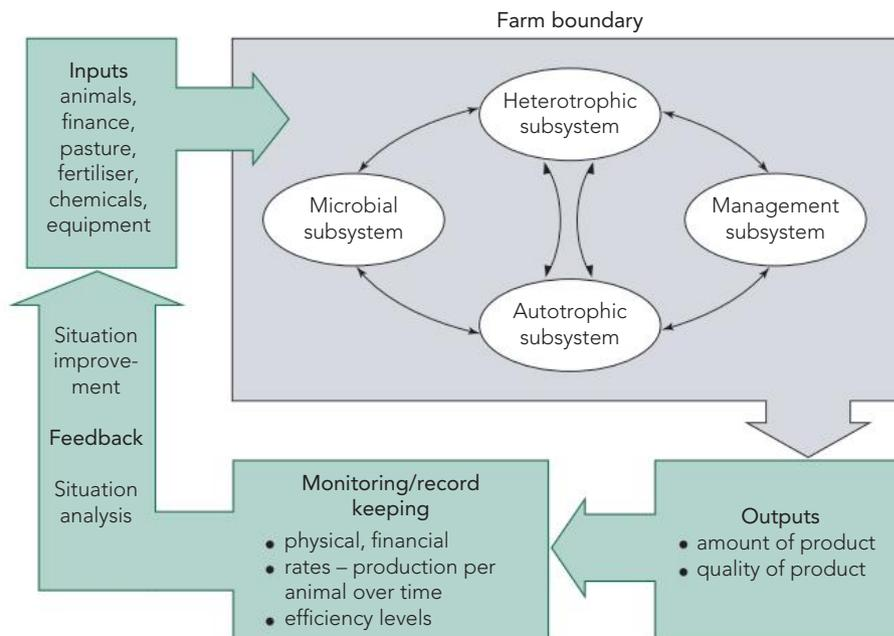
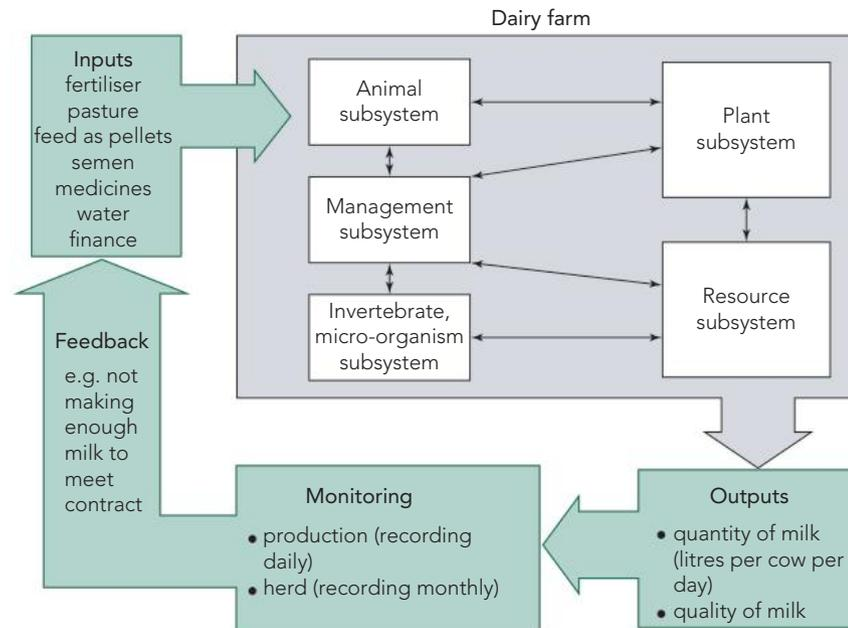

Figure 2.4 A model of a whole farm
Figure 2.5 A dairy farm system model
With a systems approach to a problem situation, the problem is not reduced to a single aspect to be exclusively investigated; rather, the problem is described in terms of the system in which it is located. Such an approach requires a definition of the system for study by reference to its boundaries, inputs, major subsystems, processes, interactions and outputs. Models can then be constructed for any part of a farm as illustrated in Figure 2.4.
Farms can be compared in terms of their system models, rather than the type of agriculture practised on them, their method of management or location in the world. In fact, it is possible, using systems terminology, to construct computer models of agricultural systems that allow people to predict what would happen under various conditions. Figure 2.5 illustrates how a researcher may determine what factors limit output levels in a dairy farm system.
- 7 Examine and redraw Figure 2.5 into your books. How does this diagram differ from Figure 2.4?
- 8 Can you think of additional inputs into the system illustrated in Figure 2.5?
- 9 What is the boundary to the system in Figure 2.5?
- 10 What problem is being investigated with this system model in Figure 2.5?
- 11 What alterations would you make in the system shown in Figure 2.5 to improve it? Give reasons for your decisions.